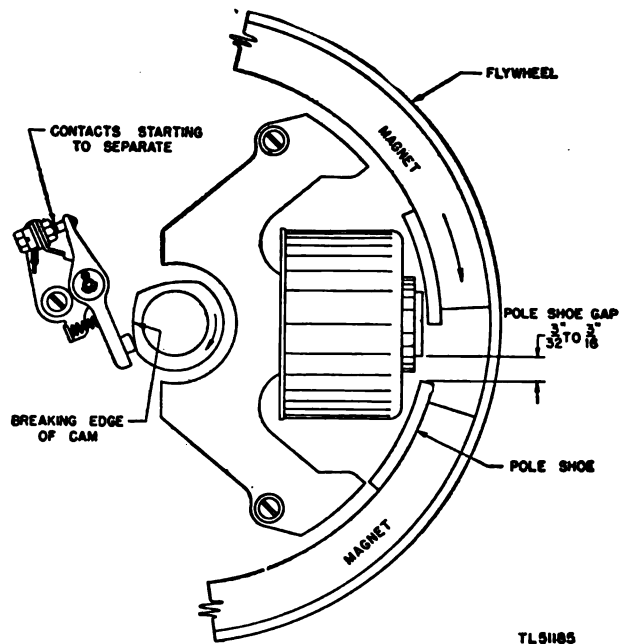

Figure 58. Contact point interruption and pole shoe synchronization on Eisemann magneto.
(3) *Setting timing of magneto.* The synchronism of the breaker point interruption and the pole shoe gap is illustrated in figure 58. At the instant when the breaker points first separate and the spark is produced, the edge of the leading pole shoe should be from $\frac{3}{32}$ to $\frac{3}{16}$ inch away from the center leg of the winding core in the direction of rotation, with the edge of the trailing pole centered over the winding. It is vitally important to maintain the correct pole shoe gap. This can be accomplished only by maintaining the breaker point opening within the specified limits of 0.018 and 0.022 inch, inclusive. If the breaker-point opening is adjusted to less than 0.018 inch, the effect is to increase the pole shoe gap; and if the breaker point opening is adjusted to more than 0.022 inch, a reduction in pole shoe gap results. This impairs the performance of the magneto and results in an engine which is hard to start.